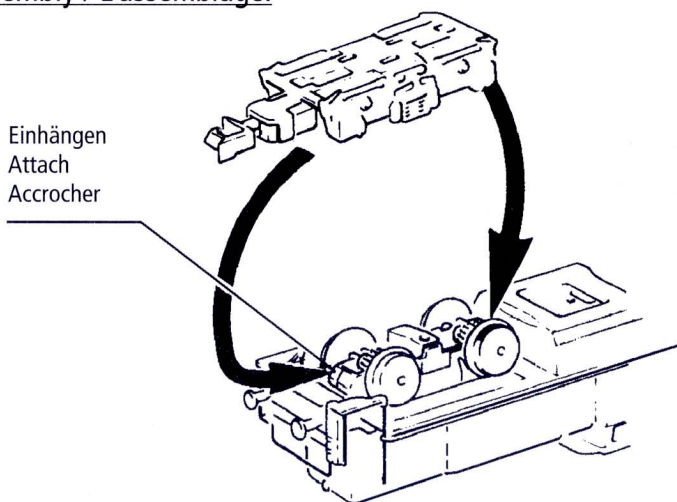

Fig. 4
1. Cleaning of wheel contacts: Wheel contacts easily get dirty on tracks which are not entirely clean. Use a small brush to **remove dirt** from spots marked in fig. 4. Prior to cleaning remove gear cover (fig. 3).
3. Change of traction tyre: Remove **gear cover** (fig. 3). Take out **wheel set** and remove **traction tyre** using a pin or a fine screwdriver (fig. 4). When pressing on the new traction tyre please **avoid twisting** it.